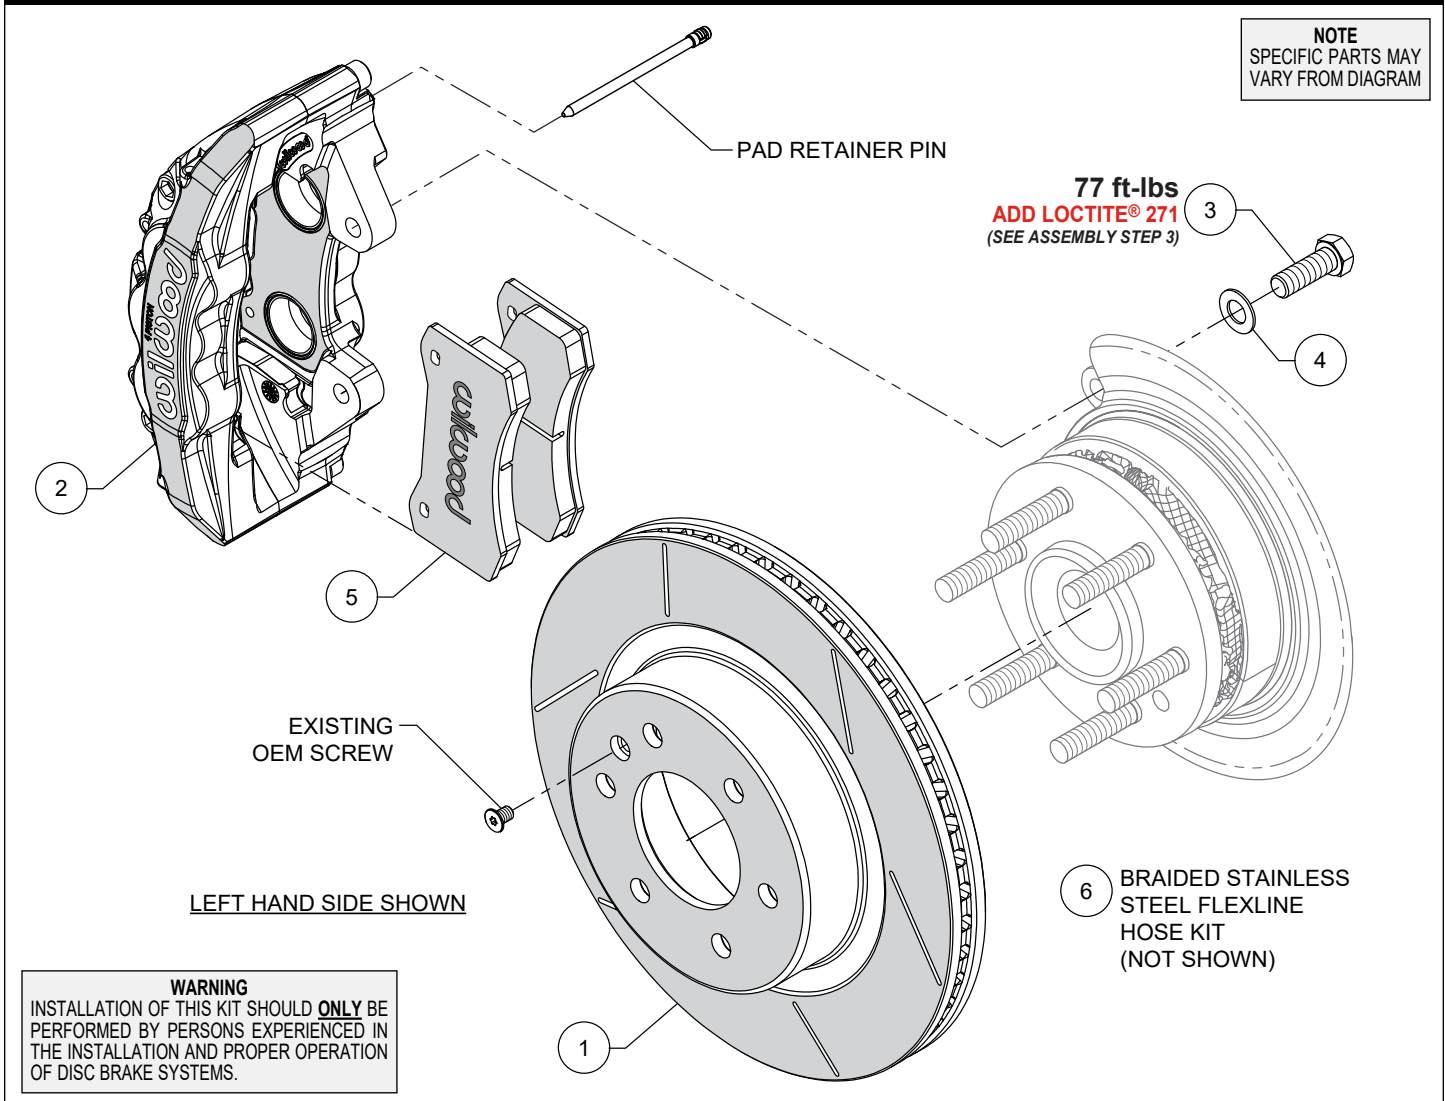

Figure 1. Typical Installation Configuration
NOTE: Numbers in parenthesis refer to the parts list and Figure 1 on the preceding pages.
STEP 1 Slide the rotor (1) onto the hub. **NOTE:** *The rotor must fit flush against the hub flange or excessive rotor run out may result.* Install the existing OEM rotor locator screw to keep the rotor assembly in place while continuing with the installation, Figure 1 and Photo 1.
STEP 2 Remove the two pad retaining pins from the caliper (2), Figure 1. Insert the brake pads (5) into the caliper from the bottom, with the friction material facing the rotor, as shown in Photo 2. Secure the brake pads in place with the pad retaining pins, Photo 3 and Figure 1. **CAUTION:** *Ensure pad retaining pins are completely engaged into caliper.* It is recommended to use a small flat punch and hammer to tap the pins in until they are fully seated.
STEP 3 Mount the caliper (2) onto the OEM caliper mounting bosses of axle using bolts (3) and washers (4), as shown in Figure 1. Apply red *Loctite® 271* to bolt threads, and torque to value shown in Figure 1.